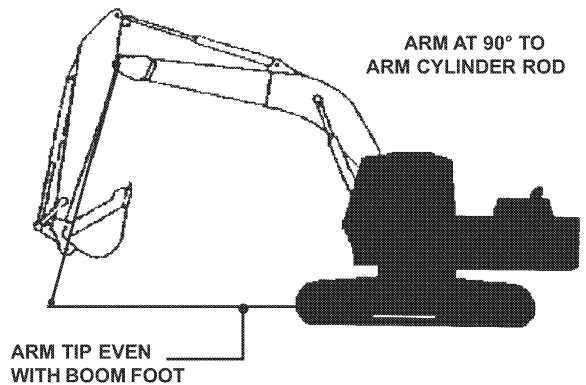

FIGURE 3.8
4. Adjust the arm until the arm is at 90° to arm cylinder. See Figure 3.8.
5. Lower boom until the arm tip is parallel with the boom foot. See Figure 3.8.